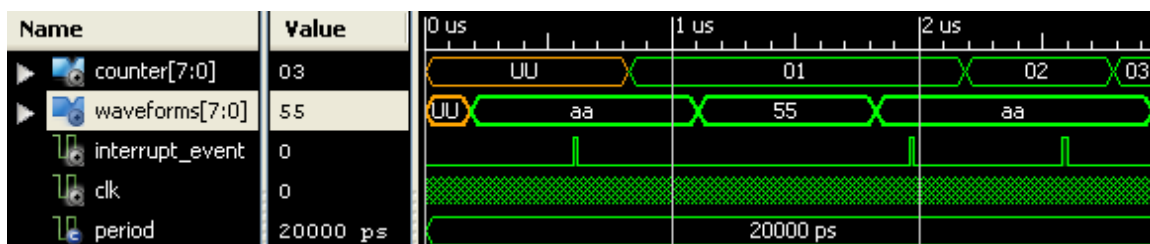

Figure 11. iSIM Behavioral Simulation Results
- 4-1-6.** Double-click **Simulate Behavioral Model** to simulate the design (**Figure 11**). Click on *Zoom to Full View* button. Change radix of waveforms signal by selecting it in the Name column of the waveform window, right-click, select Radix followed by Hexadecimal. You should see three input interrupt pulses and the displayed interrupt count value. You should also see an alternating inverted pattern displayed.